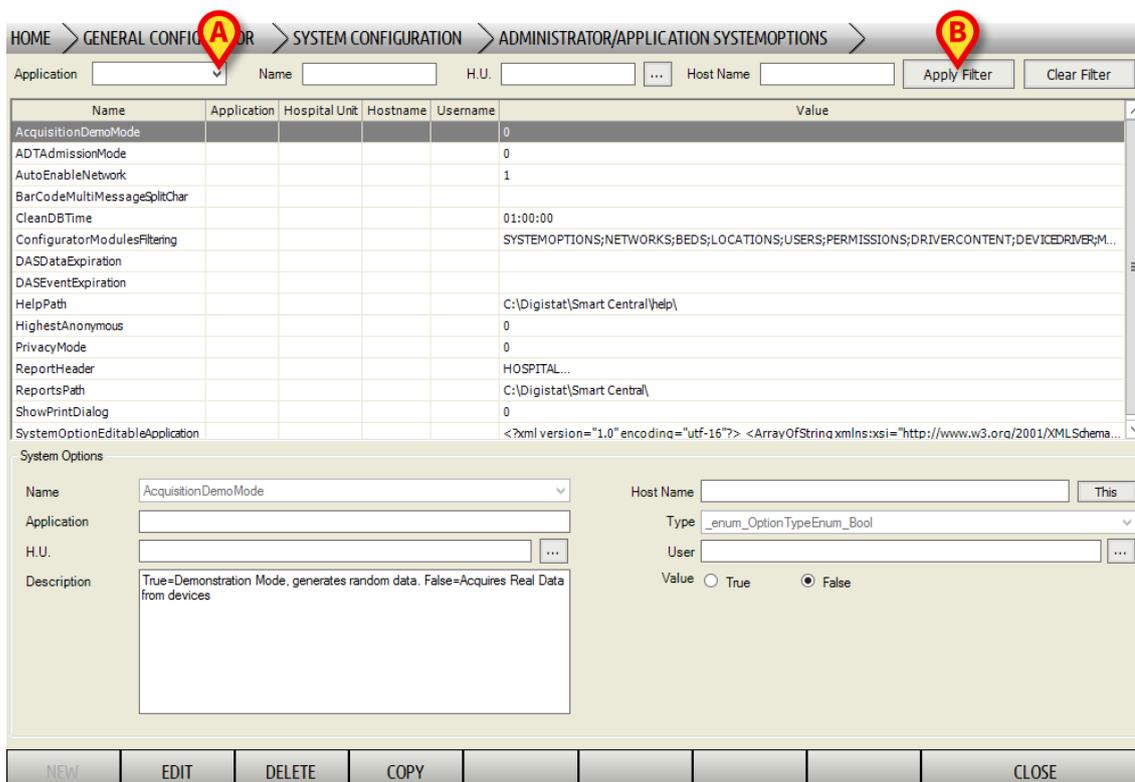
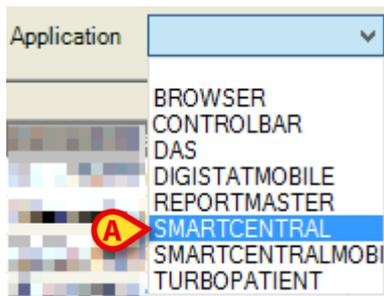

Fig 25
Fig 26
The following screen opens (Fig 25).
- 1 Select “**Smart Central**” or “**Smart Central Mobile**” on the “**Application**” filter indicated in Fig 25 **A** (enlarged in Fig 26) and then click **Apply Filter** (Fig 25 **B**)